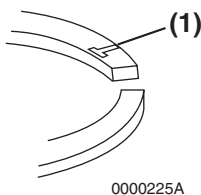

Figure 6-134
Note: Reinstall the top and second piston rings with the stamped “makers mark” (Figure 6-134, (1)) facing the top of the piston. The “makers mark” may vary in appearance but will always be located on the top surface of the piston ring adjacent to the piston ring gap. The oil ring and oil ring expander can be installed either side up.